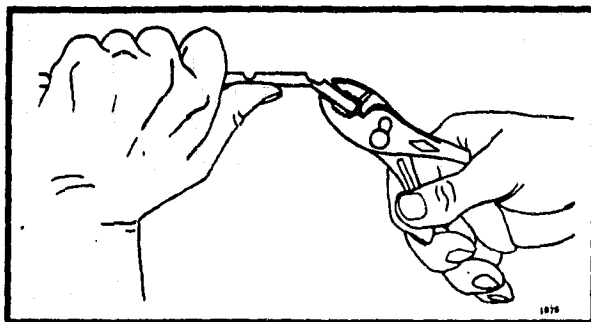

FIG. 9—REMOVING EXCESS BULB SUPPORT.
3. Break holder to desired length (Fig. 9).